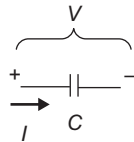

Figure 3.12
When a constant (DC) voltage is applied across this device, no current flows but the two conducting plates become charged. On the other hand, if the voltage changes, current flows through the device (Figure 3.12).
The capacitor of Figure 3.12 responds to current flowing into it by increasing its voltage (with respect to the negative terminal). Its approximate behavior is given by: